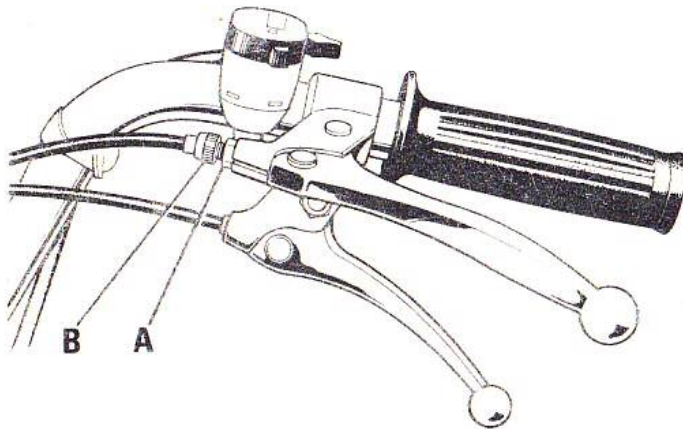

Figure 3
Each brake is adjusted to take up excess play by slackening the locknut (A) and turning the knurled adjuster (B) shown in Fig. 3. Take care that after adjustment each wheel turns easily without binding. If the brake binds through over-adjustment, slacken off until the wheel will turn easily then retighten the lock nut. Binding of the brakes will reduce fuel economy and in extreme cases can cause damage to the brakes and wheel bearings. When all adjustment has been used, slacken off the handlebar adjuster completely and take up excess play at the brake end. Further adjustment may then be made at the handlebar control in the normal way.